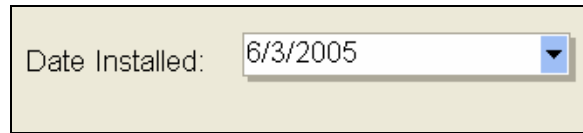

Figure 4.1.4
6. Next fill out the **Date installed** box. This is to record the date the controller was installed on site (Figure 4.1.4).